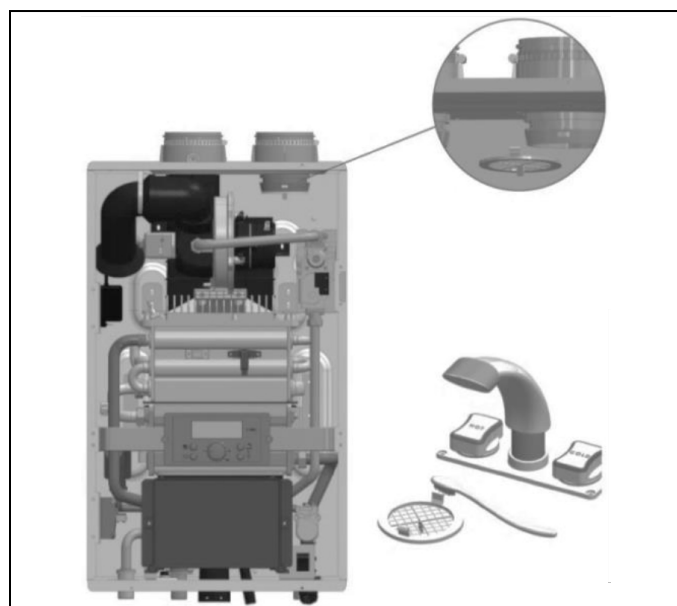

Figure 57 - Cleaning the Air Intake Filter
6. Remove the filter from the plastic assembly and clean it with a toothbrush and clean running water. See Figure 57.